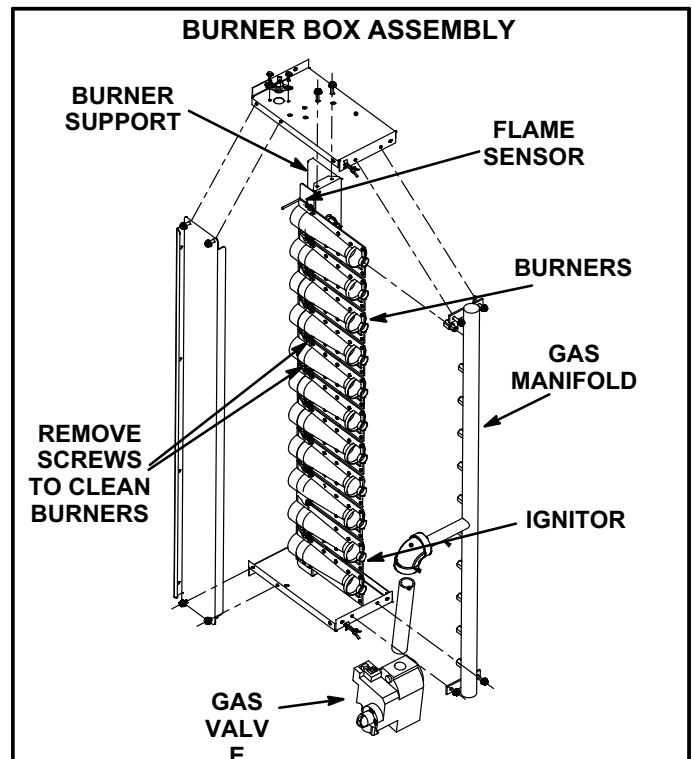

FIGURE 59
- 5- Remove and retain two screws securing burners to the burner support. See figure 59. Clean as necessary. Replace burners and secure with retained screws.